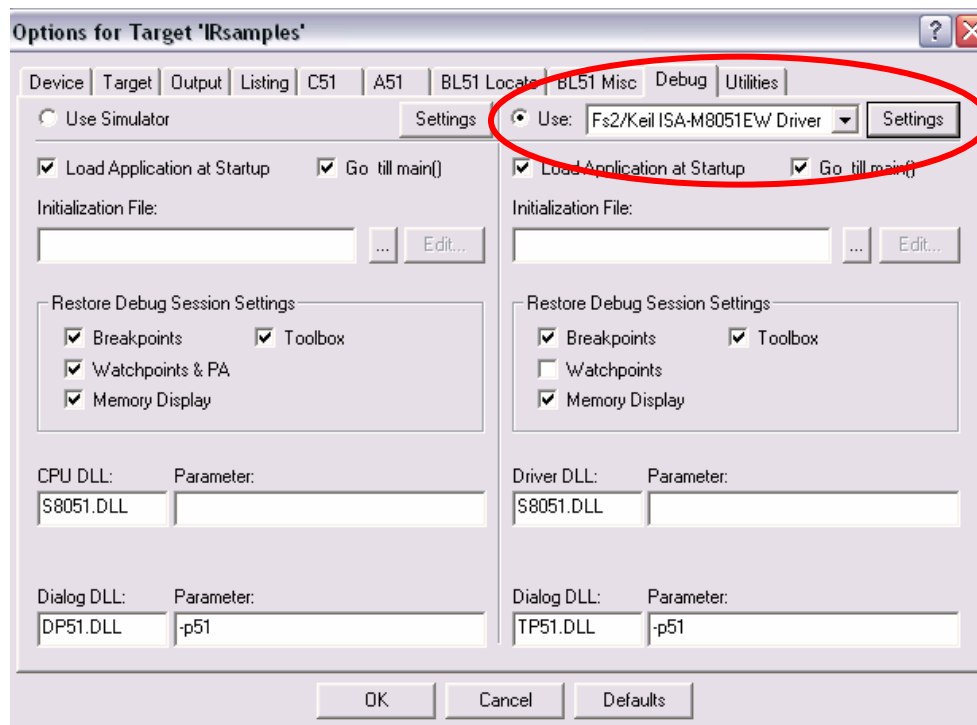

Figure 1: Debug Options window for a uVision2 project
3. Click the radio button “Use:” and set the field to its right to *Fs2/Keil ISA-M8051EW Driver*, as shown in Figure 1 below. If this option does not appear in the list, the FS2 software has not been installed properly.